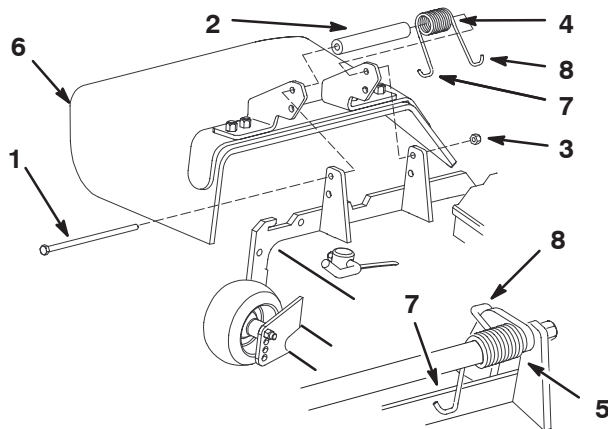

Figure 1
1. Place the spacer and spring between the grass deflector brackets (Fig. 1). Place the left hand J hook end of the spring behind the deck edge.
Note: Make sure the left hand J hook end of the spring is installed behind the deck edge before installing the bolt as shown in figure 1.
2. Install the bolt and nut. Place the right hand J hook end of the spring around the grass deflector (Fig. 1).